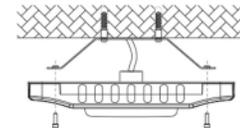

Figure10
3. Mount the fixture on the mounting plate by supplied screws. (Figure 10)